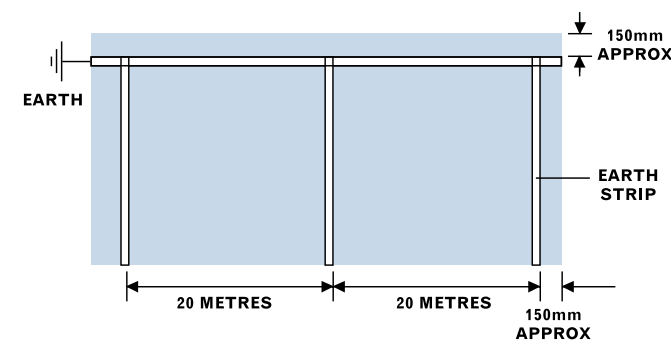

Figure 1 Earthing strip layout
8.5.1 Polyflor Static Dissipative (SD) range, OHMega EC and Polyflor EC
- > The earth strip is laid 150mm from one side of the room, in the same direction as the vinyl sheets are to be laid. This strip is connected to a known earth (Fig 1).